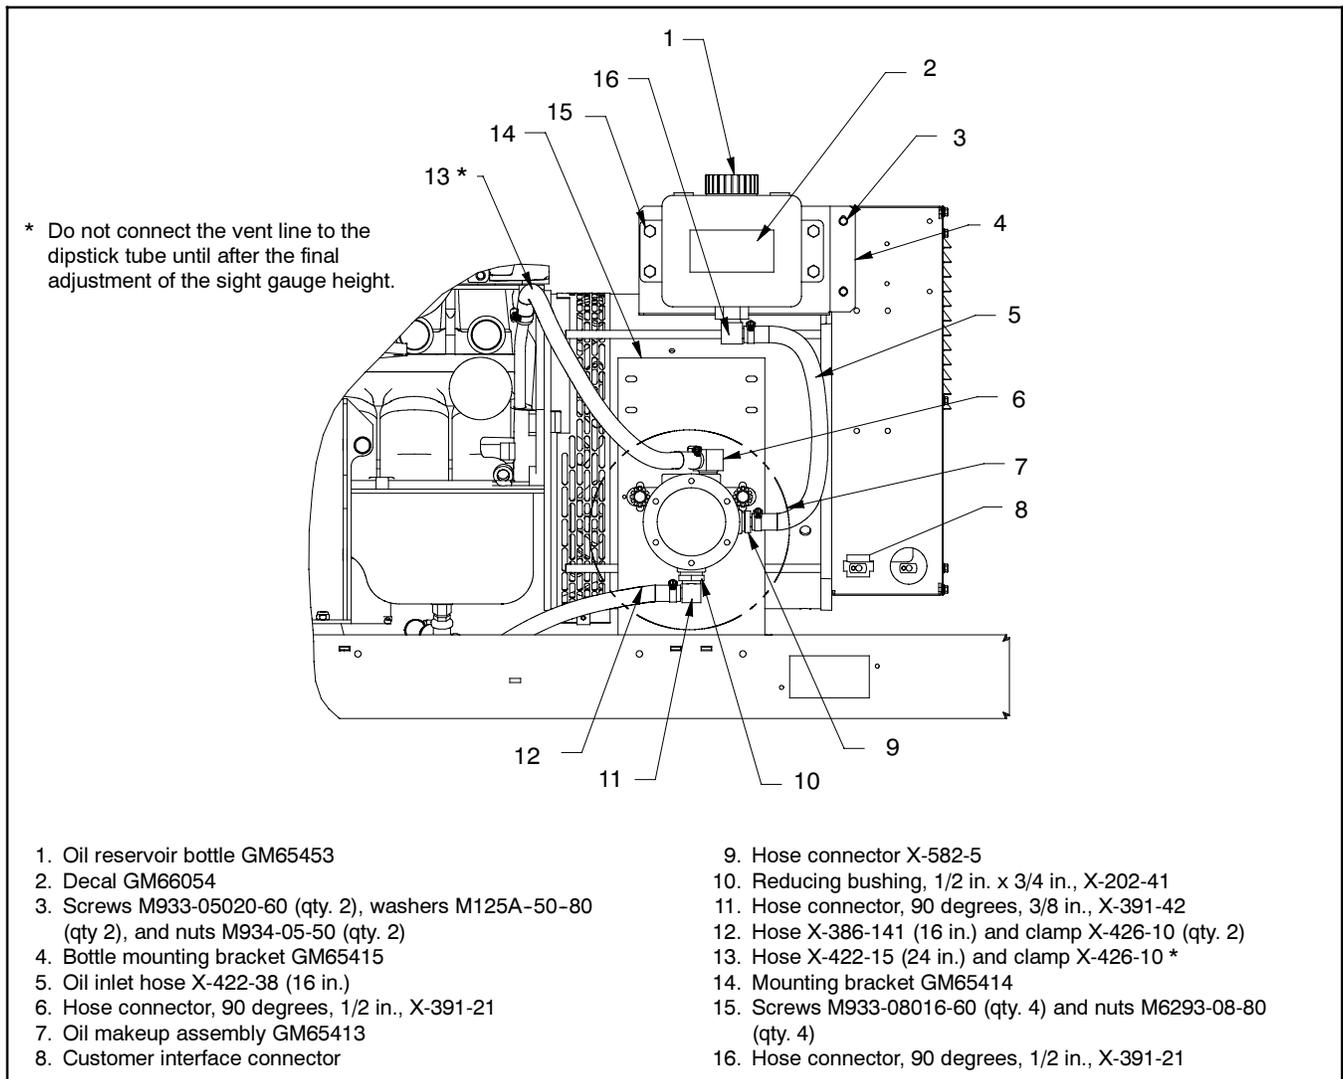
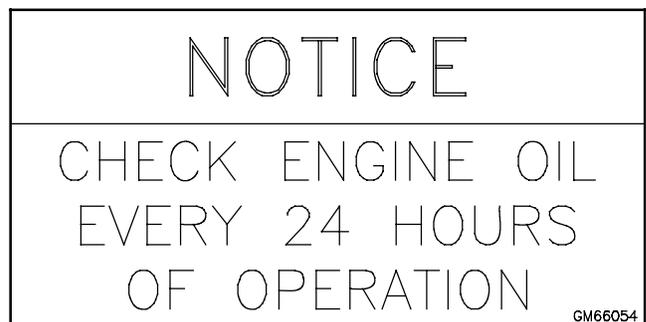

Figure 6 Oil Reservoir Bottle Mounting and Hose Connections
Figure 8 Decal GM66054
10. Assemble the following fittings onto oil level gauge assembly GM65413. See Figure 6.
13. Install 90 degree connector X-391-21 into the bottom of oil bottle GM65415. See Figure 6.
14. Install mounting bracket GM65415 and oil bottle GM65453 as follows. See Figure 6.
15. Connect the following hoses. Use hose clamps X-426-10 to secure both ends of each hose. See Figure 6.
16. Affix decal GM66054 to the oil bottle. See Figure 6 and Figure 8.